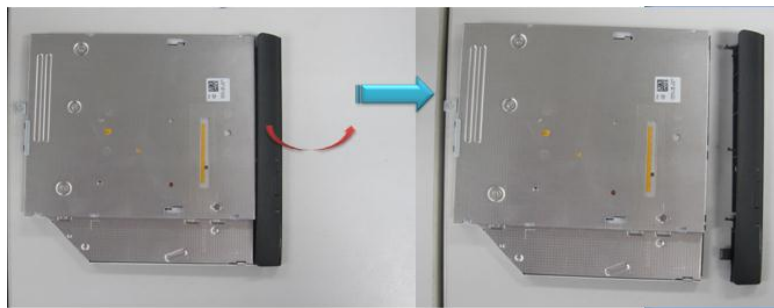

Figure 4-4-3 Disassemble the ODD bezel
3. Secure the ODD drive with the following **screw** and assemble the ODD bezel(see figure 4-4-3)